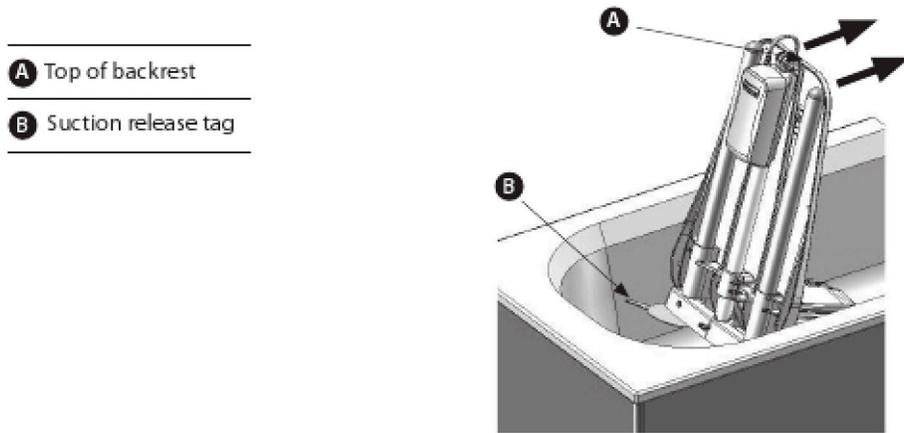

fig 8
4. Hold the top of the backrest and as you pull the release tags on each of the rear suction feet, tilt the bath lift forward (see fig 8).